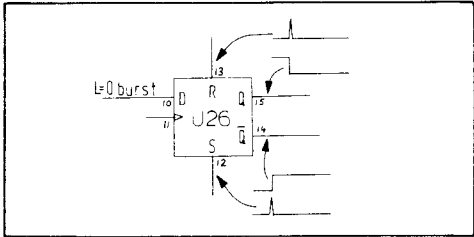

Figure 8–8–1. Burst Flip-Flop
Using the listed equipment, check that the conditions at the following test points (see also Figure 8–8–4 for precise location) are true as indicated in timing diagrams, Figure 8–8–2 and Figure 8–8–3:
- 2. Press BURST input mode (reset pulse) and MAN (set pulse) alternately, checking that the flip-flop functions correctly as shown in Figure 8–8–1.